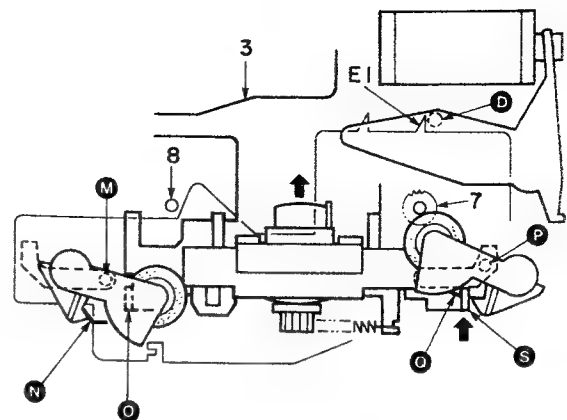

Fig. 7 (Perspective view from the front)
1-13) When the SUB-CHASSIS comes to the top, the spring ⑨ of the pinch roller ① does not contact the SUB-CHASSIS edge ⑧ because the SLIDER is fixed in position of Fig. 7 by the pin ⑩ of the FD ARM, and the pinch roller is not pressed against the capstan because the boss ⑭ is held by the groove of the SLIDER.